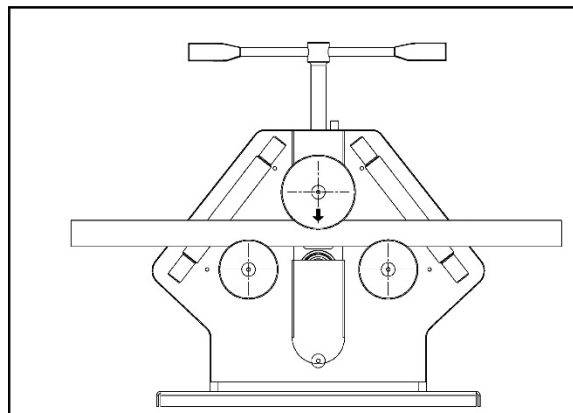

Figure 8-2: position middle roll
2. Insert material and turn handle to lower middle roll to desired position (Figure 8-2). Material should be parallel to ground and contact all three roll sets. Do not apply excessive pressure from middle roll.